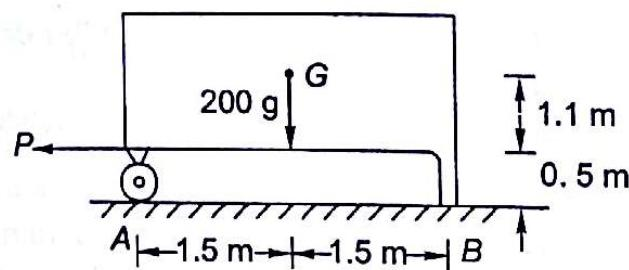

Fig. 15.17
15.1 A body of mass 200 kg is supported by wheels at A which roll freely without friction and by a skid at B. The coefficient of friction under the skid is 0.45. Determine the value of P . So as to cause an acceleration of 0.35 g of the body (Fig. 15.17).